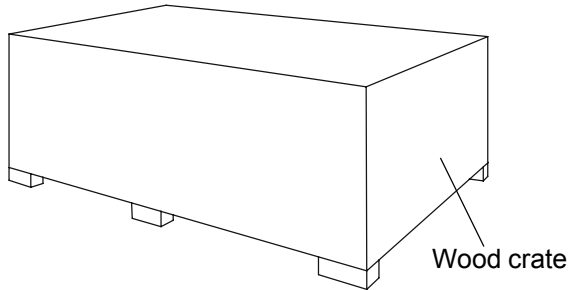

Fig.1
1.) The OUTDOOR 5000 Table has been fully assembled at the factory and packed inside a heavy-duty wood crate for safe transportation to destination. (See Fig.1)